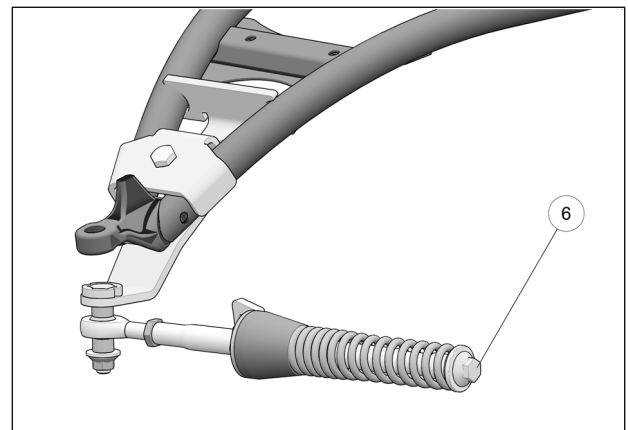

Fig. 14
- Verify that spring assembly bolt (6) is tightened to the recommended torque specification: 75 N•m [55 lb•ft]. Refer to Fig. 14